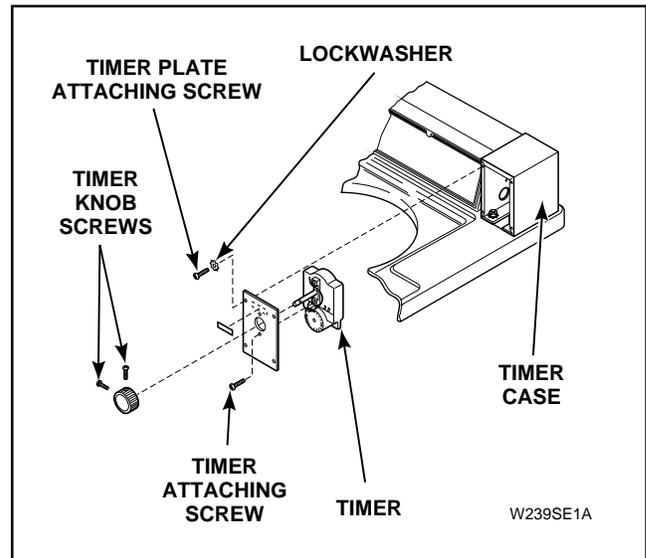

Figure 11
1. Loosen two setscrews holding timer knob to timer shaft, *Figure 11*.
2. Remove four screws and lockwashers holding timer and plate to timer case, *Figure 11*.
5. Remove two screws holding timer to timer plate, *Figure 11*.